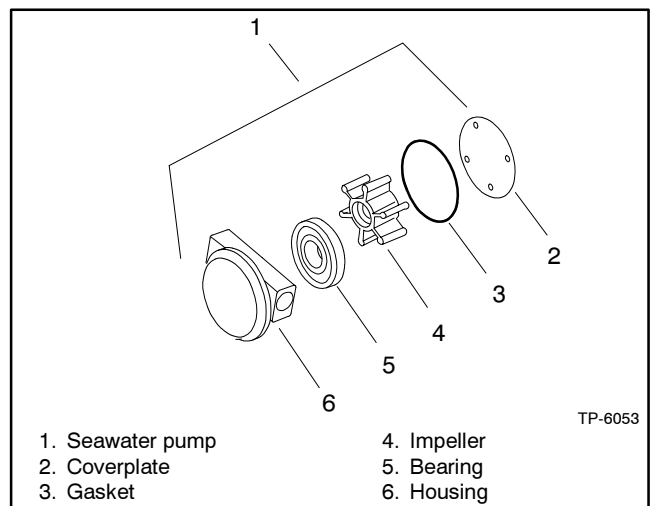

Figure 3-11 Seawater Pump, Typical
2. Remove the seawater pump coverplate. See Figure 3-11.